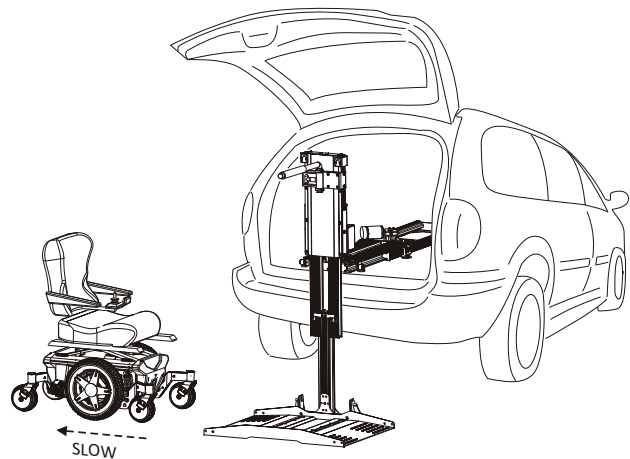

Figure 3-17
5. Slowly walk the mobility device off of the platform, backing out the same way the platform was entered. *See Figure 3-17.*